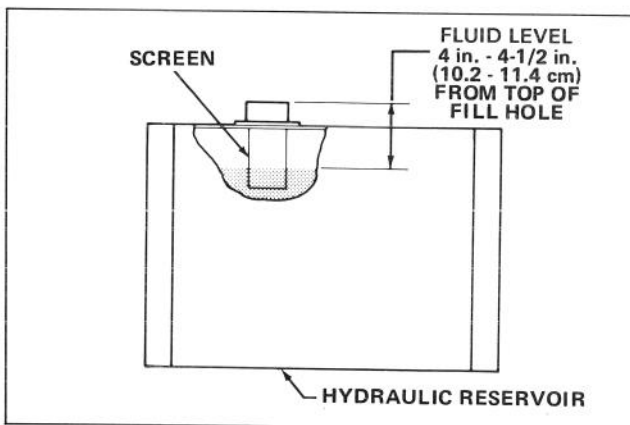

Figure 14
1. Remove the cap from the top of the reservoir and check the fluid level. The fluid should be approximately 4 in. to 4-1/2 in. (10.2 to 11.4 cm) below the top of the fill hole. Add Mobil DTE26 hydraulic fluid if the level is low (Fig. 14). Shell Tellus 68 oil may be substituted if Mobil DTE26 is unavailable.